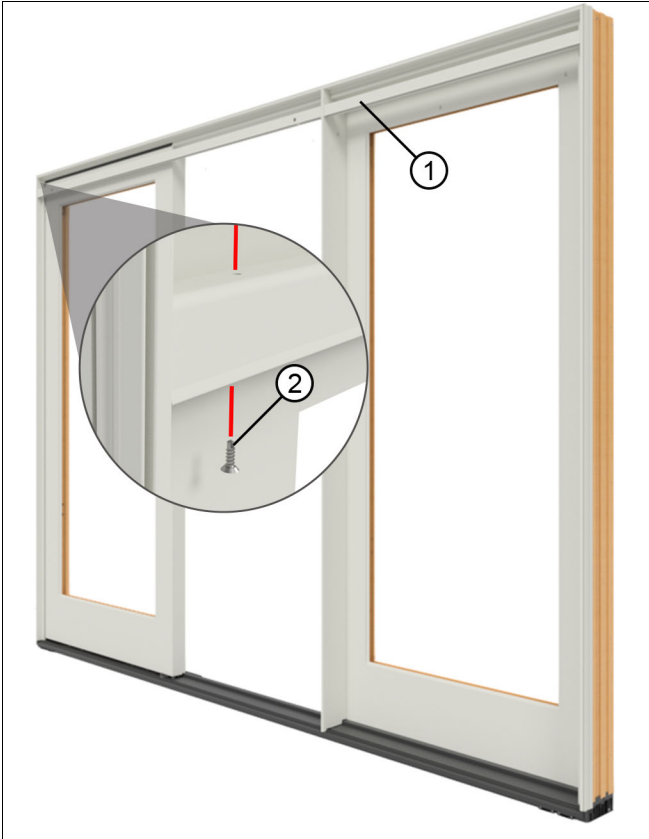

Figure 64 OXO shown.
1. On OXXO and OXO configurations, the screen track will come in two parts. OX/XO configurations have one screen track. Install with #7 x 3/8" self tapping screws through the pre-drilled holes in the track. See Figure 64.